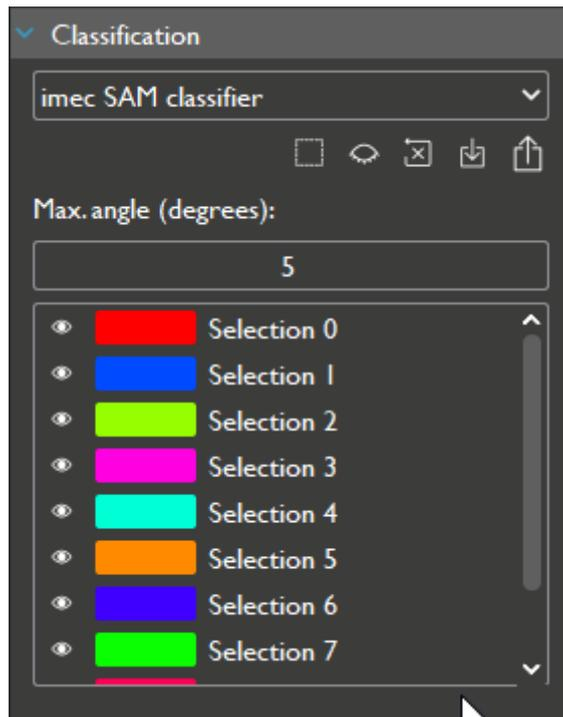

Figure 80. View of the classification panel when “imec SAM classifier” is selected. Note: this screenshot is outdated.
Step 2 - Select “*imec SAM classifier*” using the pull-down menu (see Figure 80).
Step 3 - If needed, adjust the classifier parameter “*Max. angle degrees*” (see Figure 80). The default value for this parameter is 5.
All the selections used for training the classifier will also be listed in the classification panel (see Figure 80).